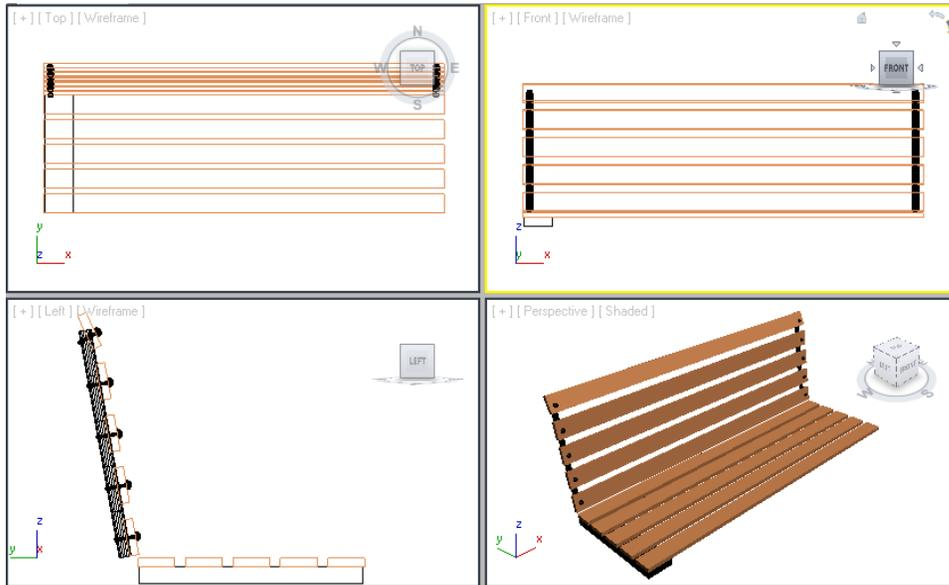

Figure 2-76 Alignment of *leg support001* with *horizontal seat support*
5. Choose the **Select and Move** tool and align *leg support001* to the extreme left and below *horizontal seat support* in all viewports, refer to Figure 2-76.